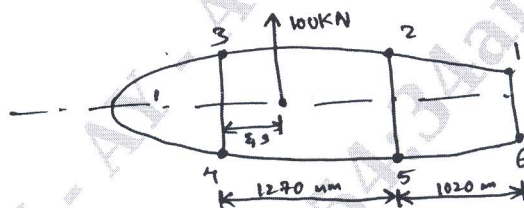

Fig.Q6
- 6 Determine the shear flow distribution in the singly symmetrical three-cell wing section shown in Fig.Q6. When it carries a shear load of 100 kN applied through its shear centre and hence find the distance of the shear centre from the spar web 34. Assume that all direct stresses are resisted by the booms while the skin is effective only in shear. The shear modulus G is constant throughout. (20 Marks)